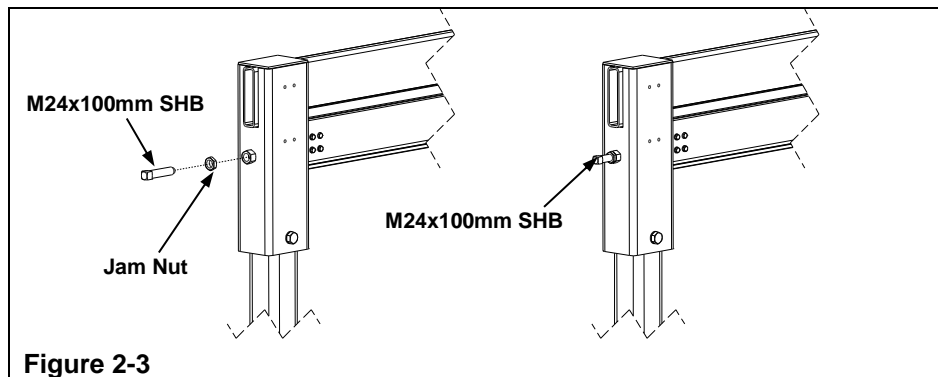

Figure 2-3
- Step 5. Install M24x100mm Square Head Bolt and jam nut. See Figure 2-3.
- Step 6. Level boom by turning the M24x100mm Square Head bolt either clockwise or counter clockwise until level. Once level, tighten M24 jam nut. See Figure 2-3.